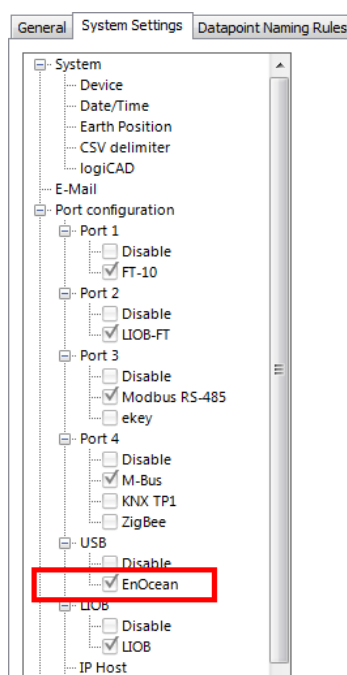

Figure 169: Enabling EnOcean in the Project Settings Dialog.
2. In the **System Settings** tab enable the EnOcean protocol on the USB port, as shown in Figure 169.